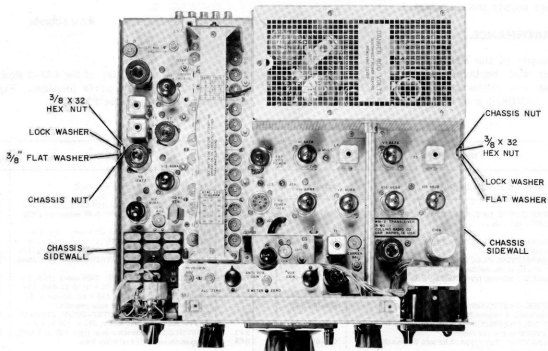
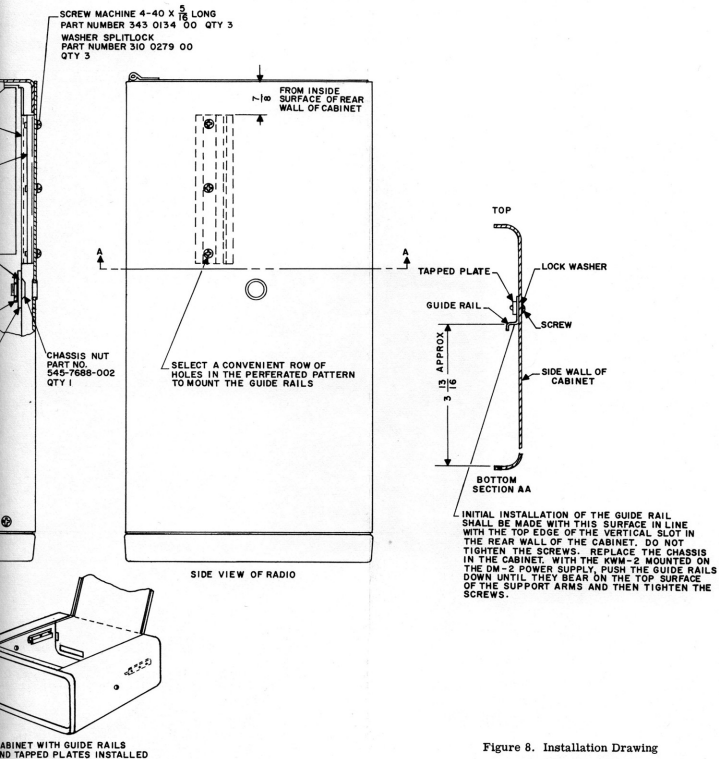

Figure 3. Installation of Chassis Nuts in KWM-2 Chassis Side Walls
Figure 8. Installation Drawing
c. Install the three 5/16 x 4-40 machine screws through their split-lock washers, through the perforations in the KWM-2 case, through the three slotted holes in the guide rail, into the holes of the tapped plate as shown in figure 8. Do this for the guide rail on both sides of the KWM-2 case. Do not tighten the guide rail screws at this time.
d. Install the two large chassis nuts in the holes of the KWM-2 chassis side walls as shown in figure 3 and figure 8.